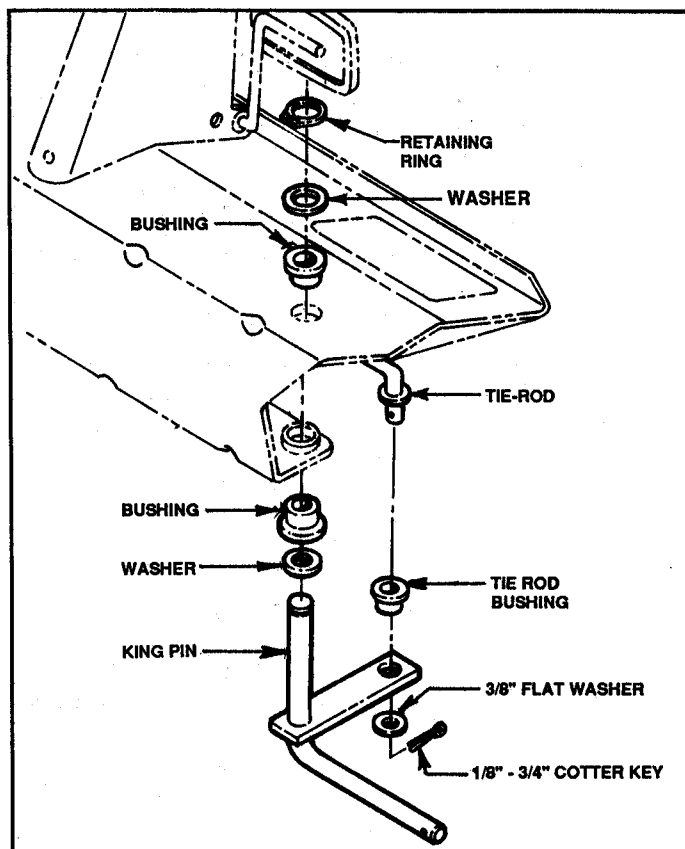

FIGURE 5.3
- A. Stand mower on rear bumpers and remove wheel components from spindle. See Figure 5.3.